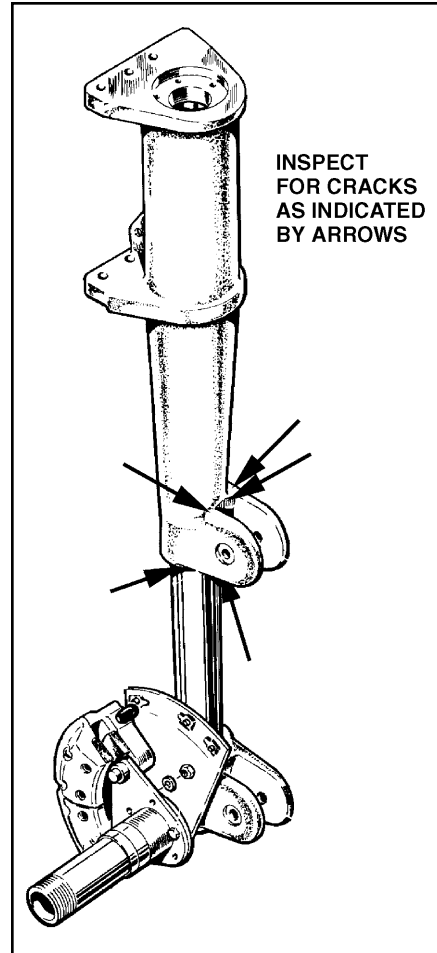

Figure 3-13. Main Gear Strut Cylinder
- (a) Thoroughly clean the area to be inspected as indicated in Figure 3-13 using a suitable cleaner.
- (b) Using a 10X power magnifying glass, visually inspect the gear cylinder top and bottom radii at the torque link attach lugs for cracks (Figure 3-13). If no cracks are found by visual inspection, proceed to Liquid Penetrant Inspection per latest revision of AC43.13-1 to check for cracks. Strip the paint and primer from the area to be inspected using a commercially available chemical paint stripper taking care only to remove paint and primer from the inspection area.